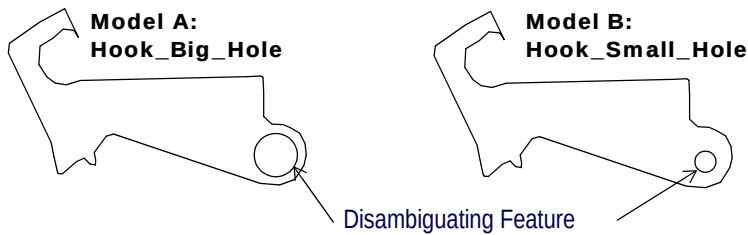

Figure 148 Using Discriminating Features to Distinguish Between Similar Objects
- The Locator automatically uses disambiguating features to distinguish between several similar Models. The example in Figure 148 shows two “hook” objects that are identical except for the size of the circular hole at each end, which in this example is the *only* discriminating feature.